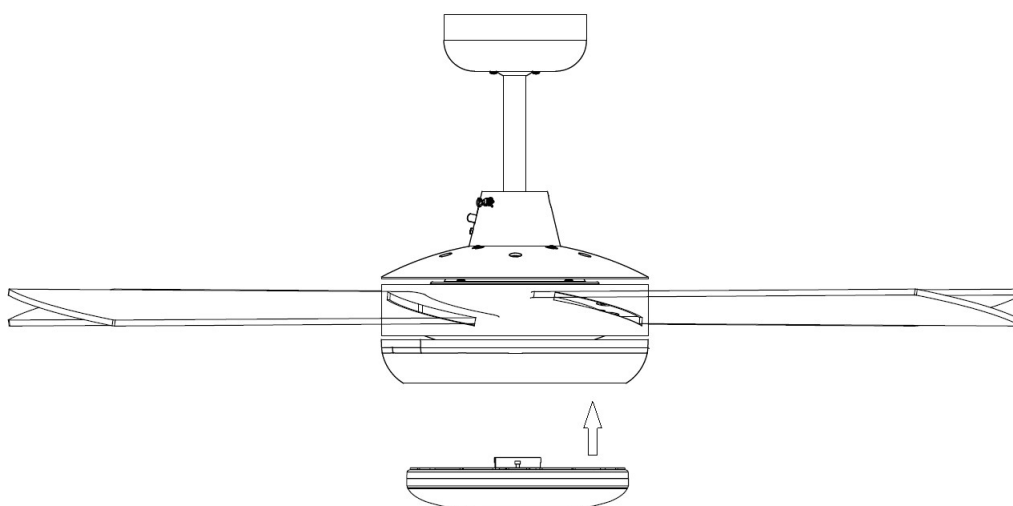

Fig. 7
4. Install the LED lamp (Included) onto the GX53 lamp holder. (Fig.7)